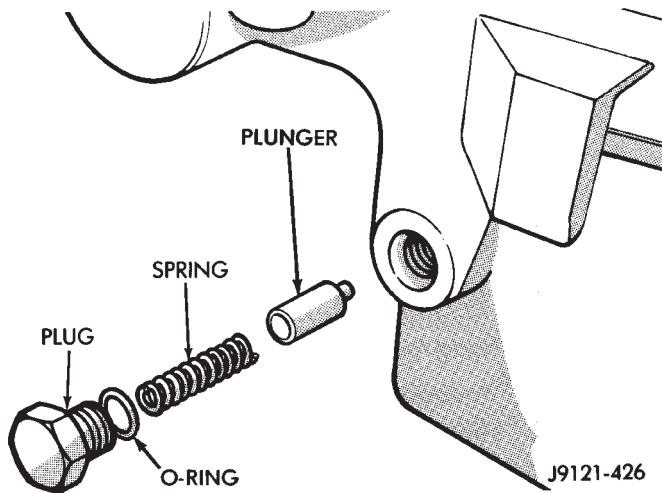

Fig. 19 Removing Detent Components
(24) Remove transfer case shift lever nut and lever.
(25) Remove shift detent plug, spring and pin (Fig. 19).